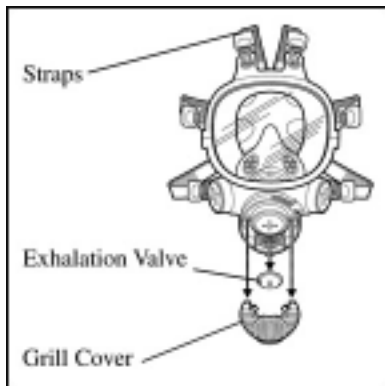

Fig. 18
5. Replace the valve if necessary. Secure the valve cover prior to use. (Fig. 18) Examine the lens for signs of cracking or other damage. Replace if necessary.